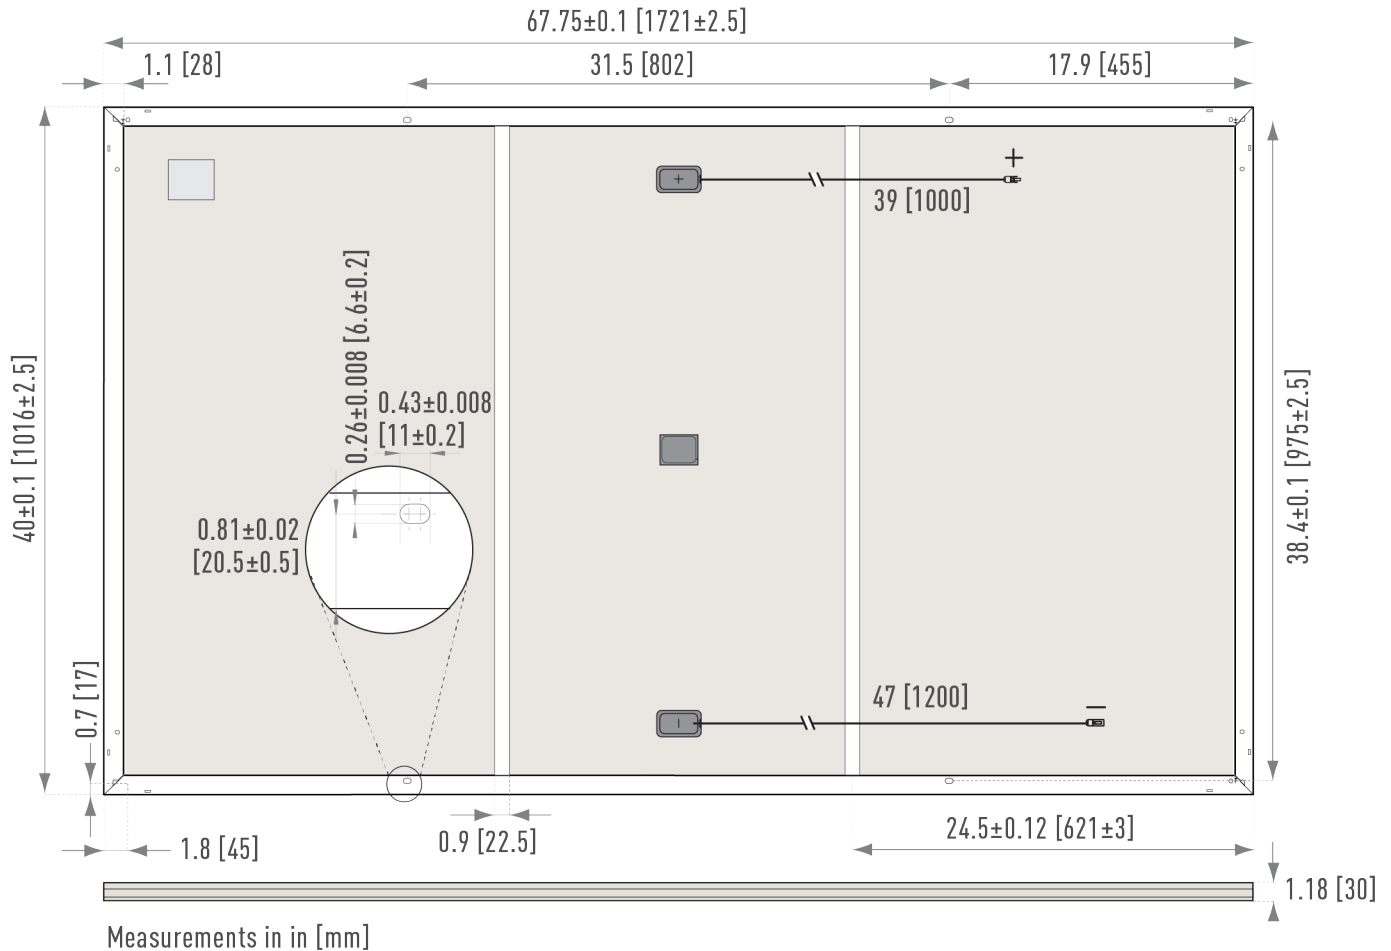

Figure 1. Module Dimension for EVPVxxx and EVPVxxxK Series and EVPVxxxHK Series
- Module specifications are shown in Table 1, 2 and Figure 1, 2, 3. (Electrical specifications, mechanical specifications, module dimensions)
- Each terminal is dedicated to one polarity (with the polarity symbols engraved onto the body of the junction box) (see Figure 1).